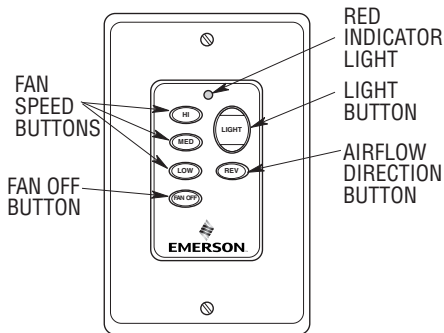

Figure 22
Your SW114 Fan/Light Wall Control (Figure 22) has full control of your fan, lights, and airflow direction.
- 1. To set the desired fan speed, push the HI, MED, or LOW buttons to operate your fan on high, medium or low speed (See Figure 22).